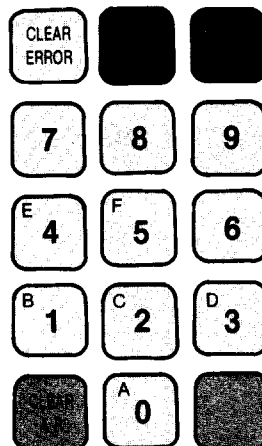

Figure 2-3. Numeric Keyboard
Numeric keys are used to enter numeric data in the Assembly Register (AR) located at the lower right of the CRT screen. Figure 2-3 illustrates the numeric keyboard.